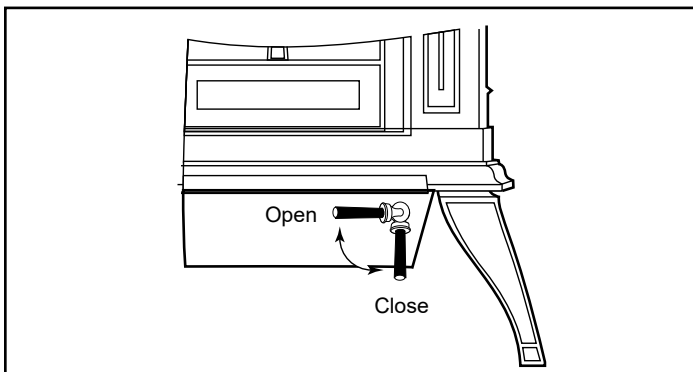

Figure 39- Turn the ashdoor handle clockwise to open and counterclockwise to close.
- Close the griddle or doors, and unlatch the ash door. (Figure 39) It will pivot, swinging the ash pan out of the stove.